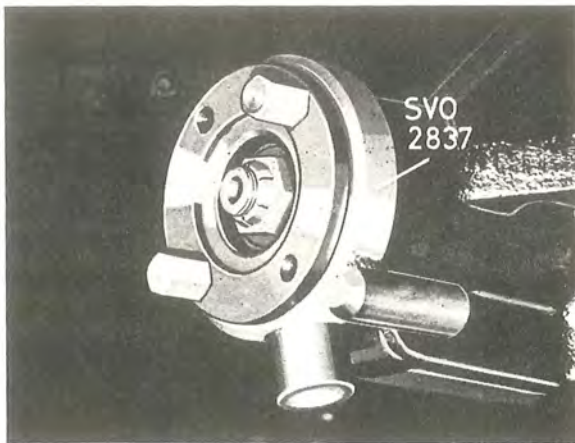
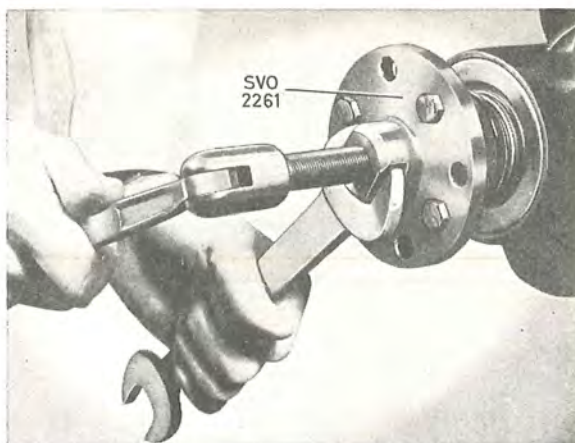

Fig. 4-71. Counterhold for flange
Fig. 4-72. Removing the flange
2. Remove the nut for the flange. Use for this purpose tool SVO 2837, see Fig. 4-71. Pull the flange off with puller SVO 2261, see Fig. 4-72. Pull out the old oil seal with puller SVO 4030.
7. Turn the final drive and let the oil run out into a container. Use tool SVO 2837 as a counterhold for this purpose, see Fig. 4-71. Pull off the flange with puller SVO 2261, see Fig. 4-72. Press out the pinion.